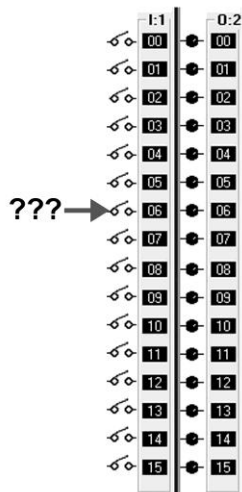

Figure 5-1 I/O module for question 4.
4. The address for the point on the I/O module shown in Figure 5-1 would be 4. _____